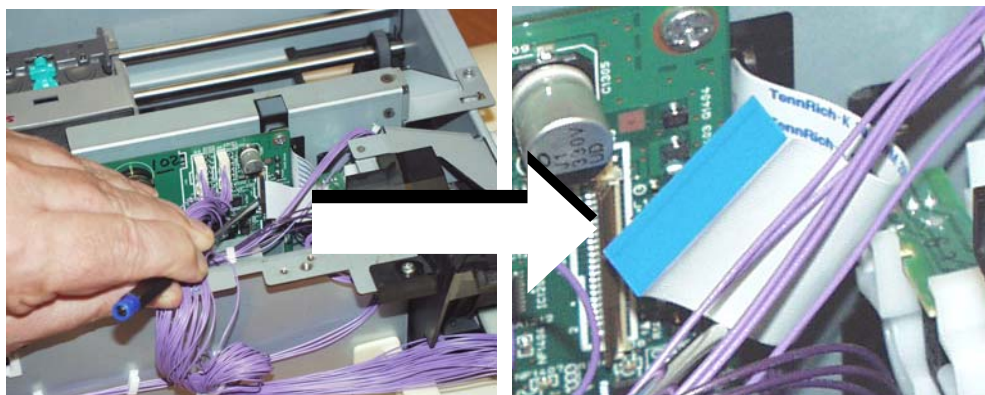

Figure 5-38 Removing Print Head Cable at Main Logic Board
7. Unlock and remove printhead ribbon cable at Main Logic Board. See Figure 5-38, next page.